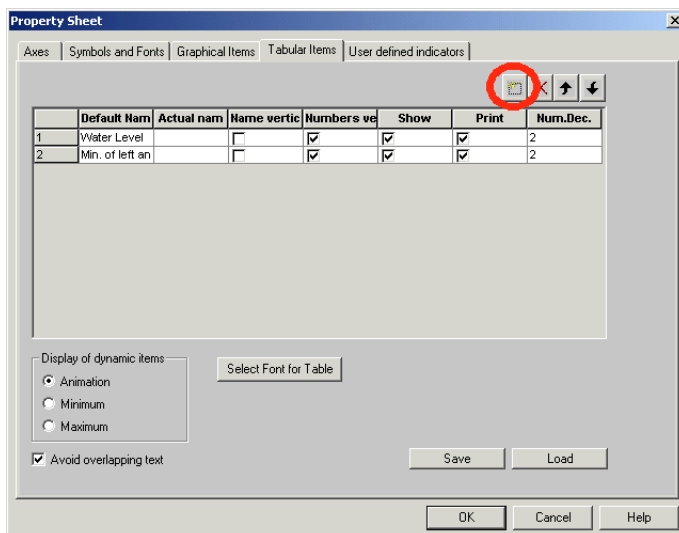

Figure 13.26 Longitudinal Profile Options Menu –Tabular Items
- Select the “Insert” tool (circled in Figure 13.26) and explore the dynamic and static options available to you. Try displaying various items and observing how the LPW is updated.